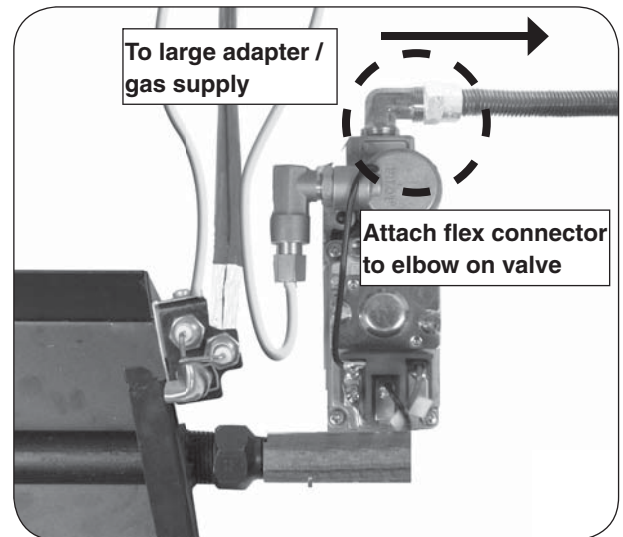

Fig. 7-1 Install flex connector to valve
3. Discard the small adapter included with burner flex connector kit. Attach one end of the flex connector (included with burner) to the elbow found on the control valve. Tighten securely. See Fig. 7-1.